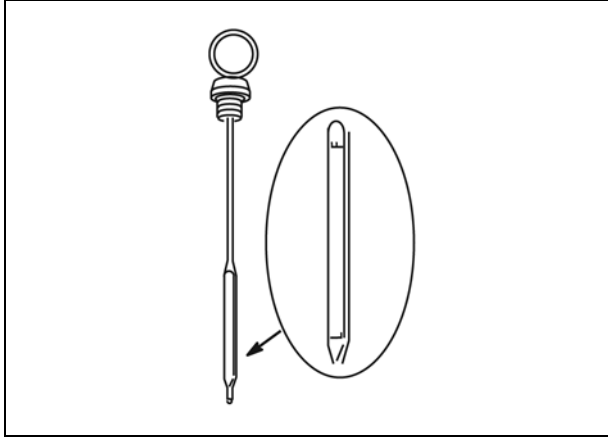

Figure 4
- Oil level should be between the LOW and FULL mark on the dipstick (Figure 4). If oil level is low, check for leaks and add to FULL mark.